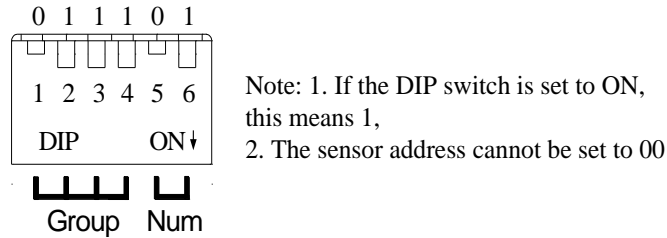

Figure 2-32 Sensor Address Settings
- If the sensor address is 71, the setting method is as shown in Figure 2-32 wherein 0111 represents Group No. 7 and 01 represents the sequence number 1 within the group.